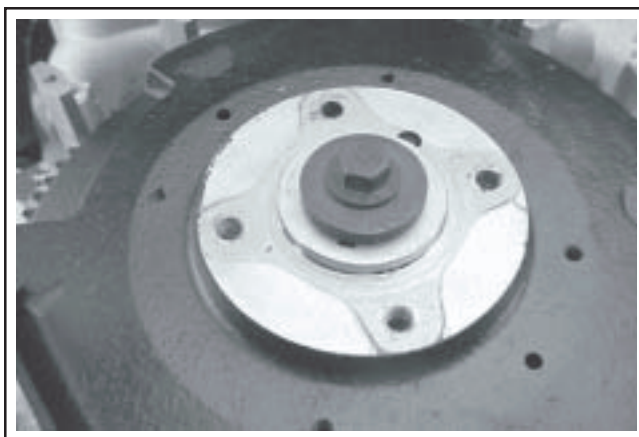

Figure 11-69. Installing Flywheel Mounting Hardware.
3. Install the hex. flange screw and washer. See Figure 11-69.